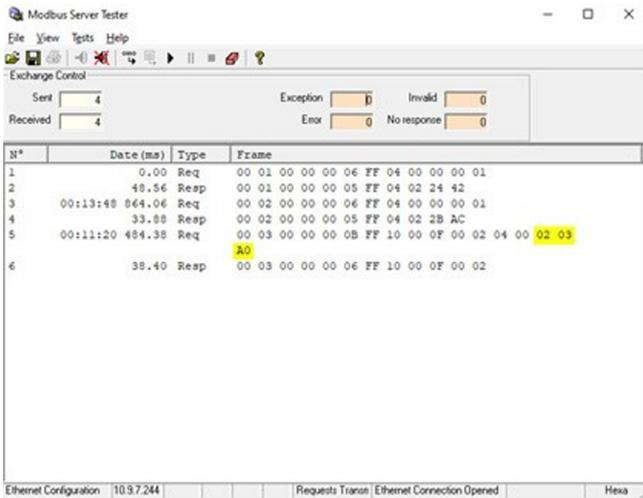

Figure 40.2.
- The Define Data (16 bits register) window will appear. In this example, you wish to send 12.5kW, so 1250 daW in hex is 0x000004E2. Send this data in two parts, so "0000" will be sent for the first 2 bytes (WORD) and "04E2" will be sent as the second 2 bytes (WORD). Type those into the inputs, as shown in Figure 40.1. Click Finish. The Modbus Server Tester output window appears. Looking at the output window, you will see that the request had 0x0004E2 and that the response was valid, as highlighted in Figure 40.2.